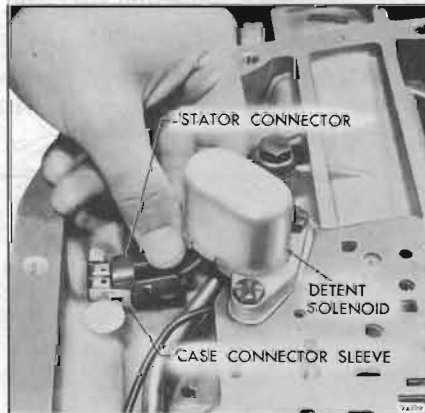

Figure 74-516
4. Disconnect stator connector from case connector sleeve. See Figure 74-516.